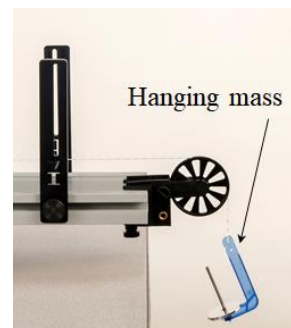

Figure 4: Hanging Mass Before Release
3. Back the cart up, away from the pulley, and hold it there at rest. As shown in Figure 4, the hanging mass should now be just below the pulley, not touching the pulley, and not swinging noticeably.